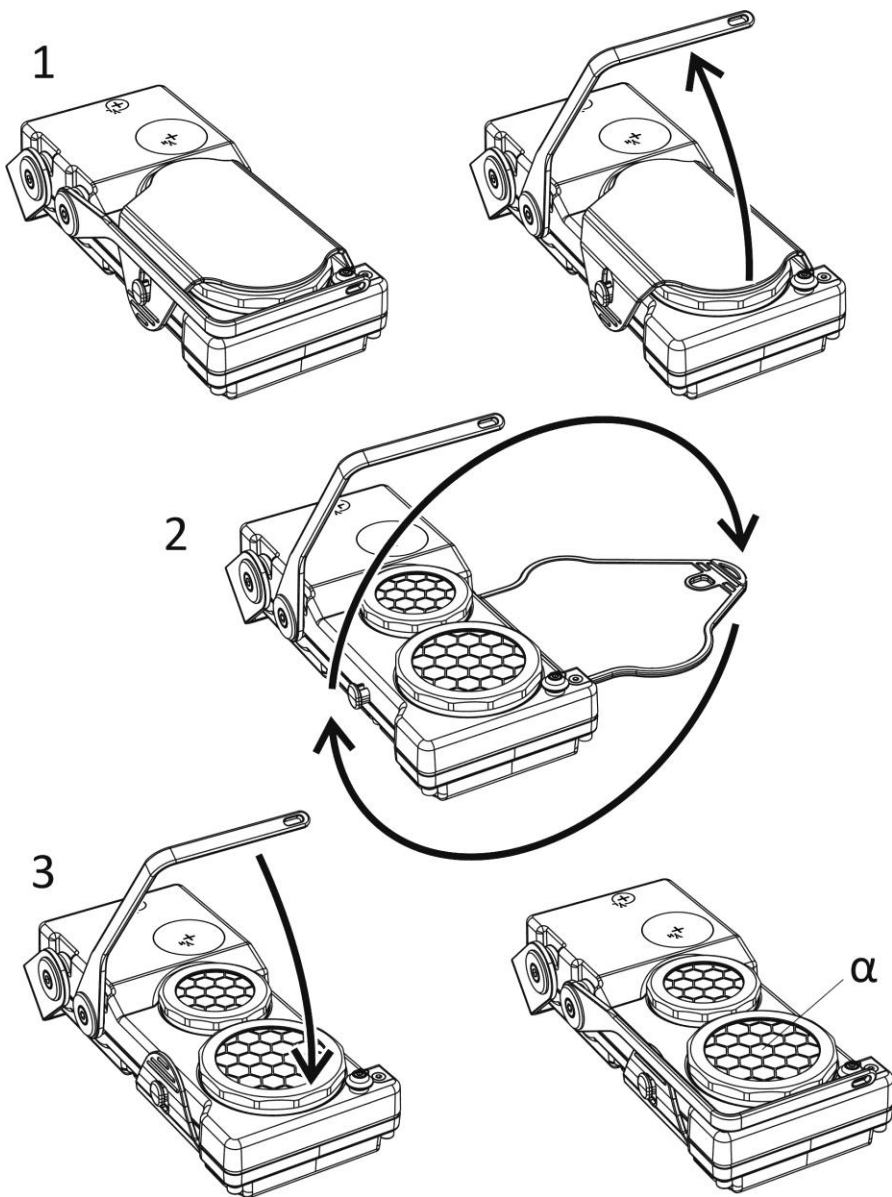

Figure 2.21 – Opening the detectors windows of ABG probe
2.3.6.7.1.4 Open the alpha detector window (Figure 2.21).